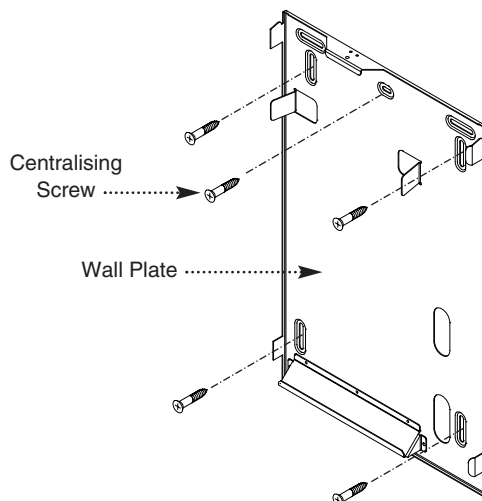

Fig. 22
7. Ensuring the wall plate is level both horizontally and vertically, drill and plug at least 4 securing positions at the top and bottom through the wall plate. Utilising the slots available ensure the wall plate is square and secure to the wall (Fig. 22).